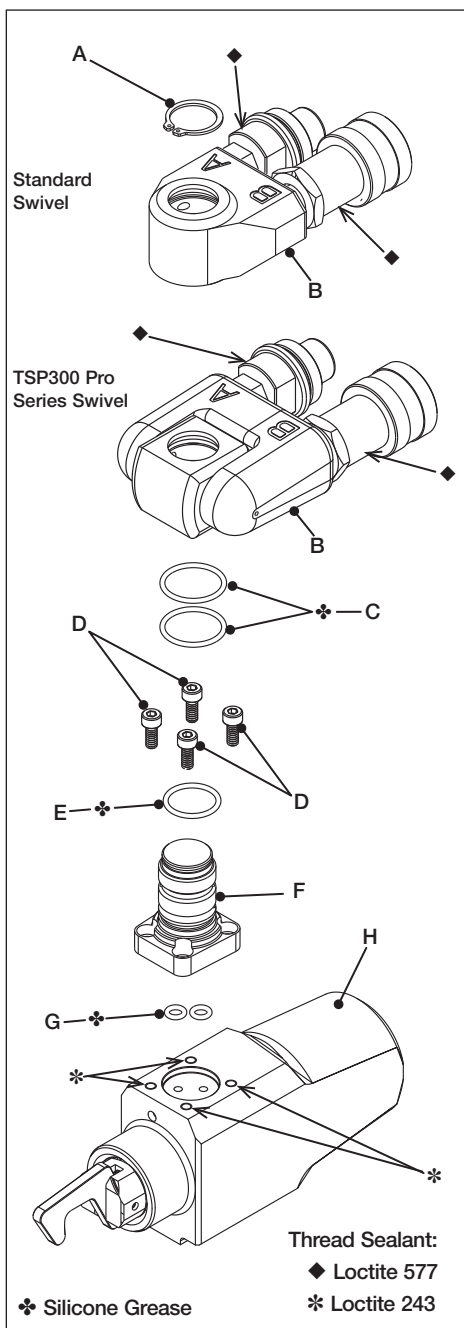

Fig. 14
5.3 Full Maintenance - Hydraulic Swivel and Drive Unit (Fig. 14, 15 and 17)
Refer to Figs. 14 and 17 for swivel components.
- Apply a small amount of Loctite 243 thread sealant to the threaded holes in the drive unit. See (*) in Figure 14 for locations.
- Install two O-rings (G) into the ports on the base of the swivel post (F).
- Place the swivel post (F) on the drive unit (H), making sure that hydraulic ports are aligned. Be careful that O-rings (G) do not drop out or become pinched or cut.
- Install the degreased socket head capscrews (D) and tighten them as follows: